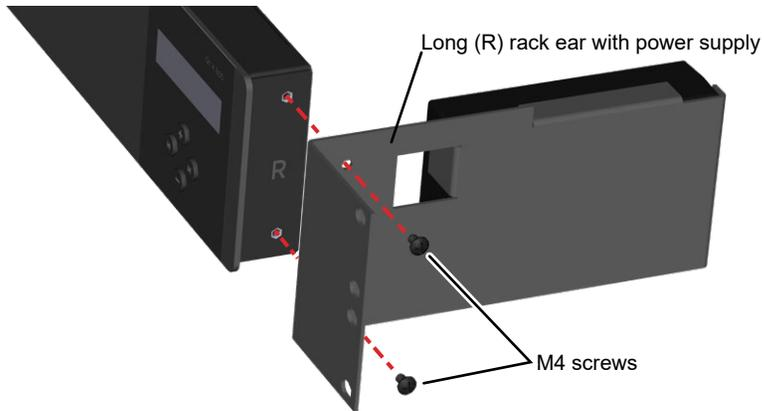

Figure 6. Remove rack brackets from the controller
1. If necessary, remove the existing rack mount brackets from the controller and reserve the M4 screws to attach the wall mount bracket (Figure 6).